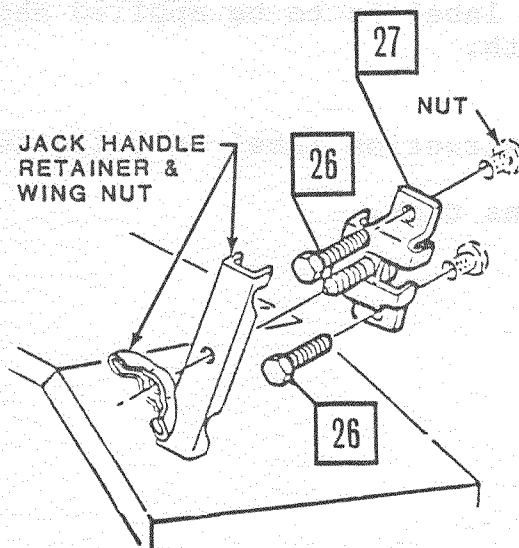

Figure 9.
27. Install jack handle mounting bracket to wood insulator (Figure 9.). Tighten bolts to 40-70 lb.-in. (4.5-7.0 Nm). Install jack handle.